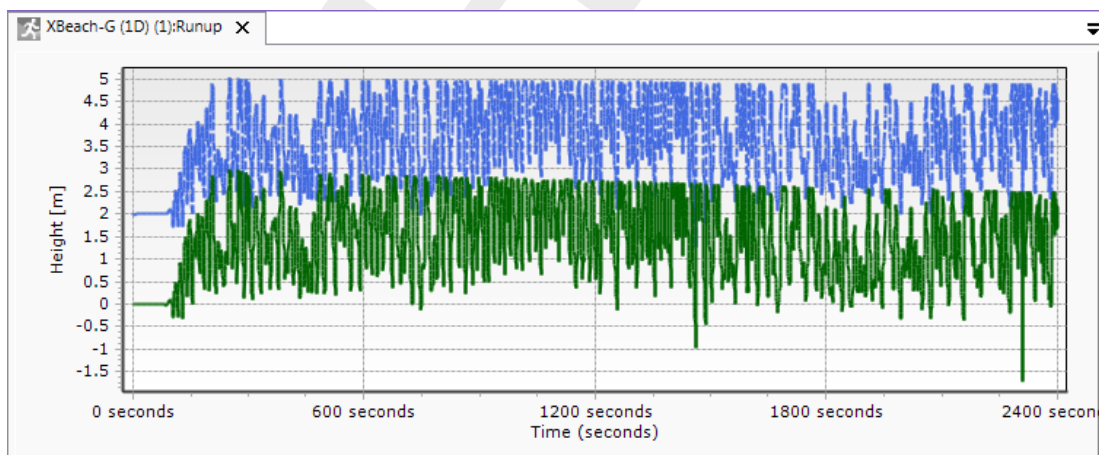

Figure 6.9: Example of the Runup output document view with seconds format
- 2 **Elapsed seconds** - This format denotes the elapsed time in seconds since the start of the simulation. Figure 6.9 shows an example of the "Runup" document view in case the "Elapsed seconds" format is chosen.